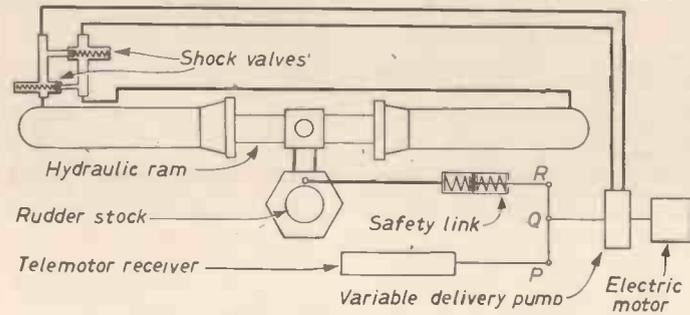

Fig. 5.—Electro-hydraulic steering gear.
Fig. 5 shows the layout of a typical steering gear of this type. The floating lever (PQR) is connected at (P) to the telemotor, at (Q) to the pump output control rod and at (R) through links to the tiller. By studying the sketch it will be seen that movement of the telemotor causes the lever to pivot about (R) moving (Q) from its normal position resulting in the pumping of oil from one ram to the other. This will cause movement of the rams and tiller which in turn will cause (R) to pivot about (P) until (Q) is again in the neutral position and oil flow and tiller movement will cease. The rudder will now be in the position required by the wheel on the bridge.